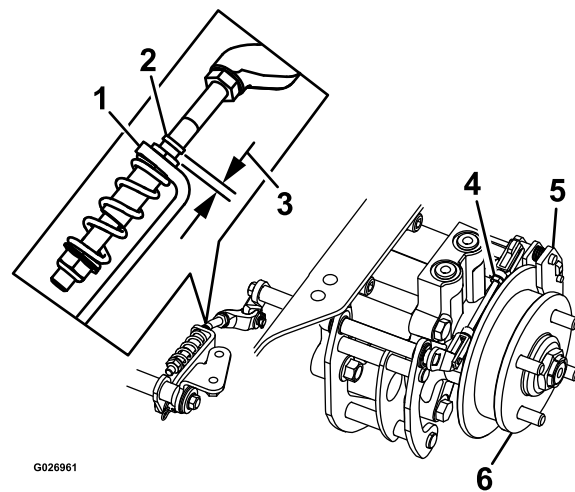

Figure 80
8. Check to see if there is a visible gap between the L-bracket and the linkage stop (Figure 80).